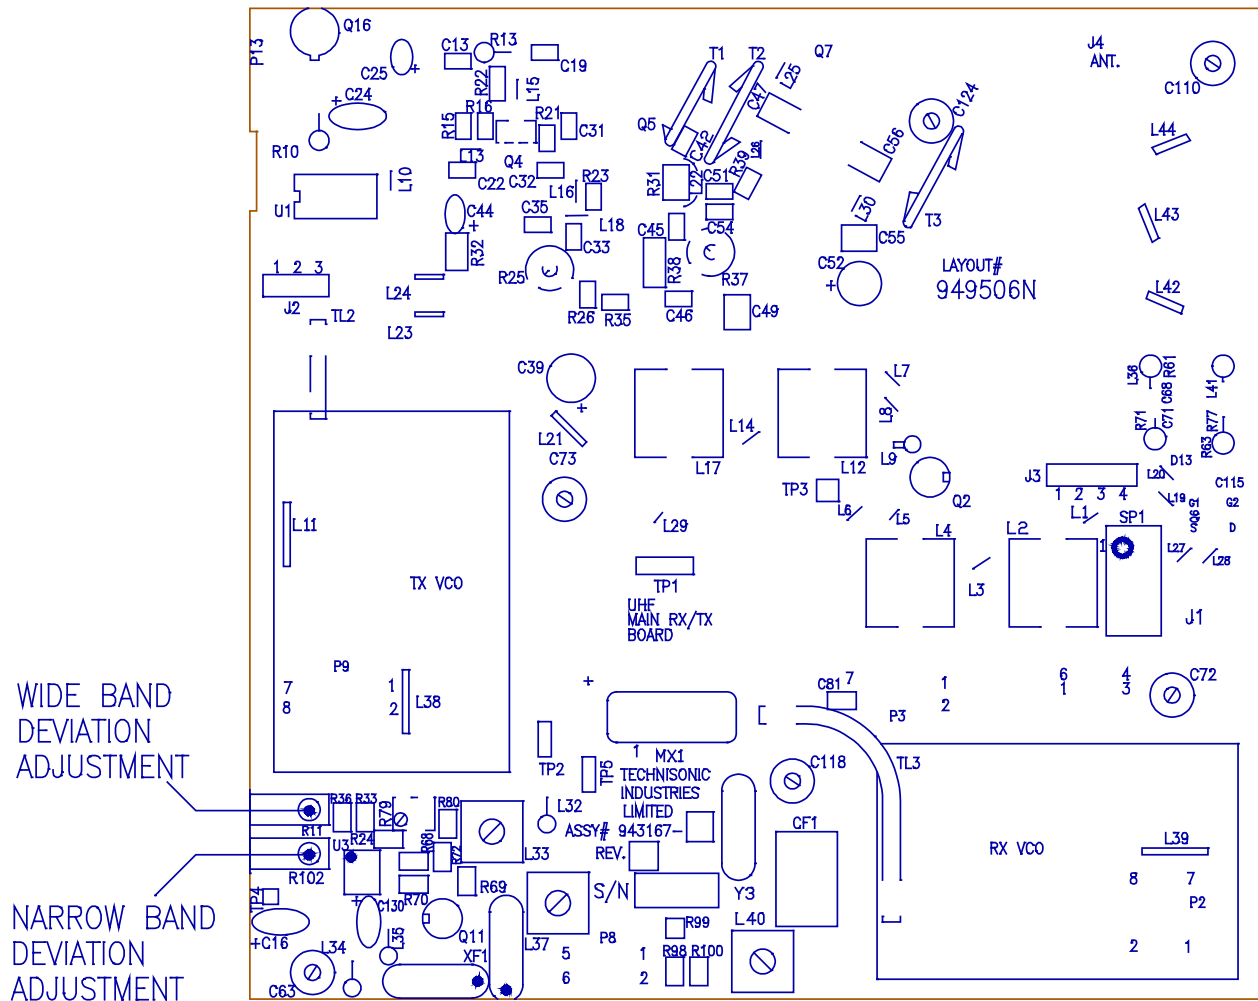

FIGURE 3-6 Deviation Adjustment Potentiometer Location
6. Adjust the wideband deviation limit potentiometer, R11 on the UHF Rx/Tx module (see Figure 3.6), to produce a ± 4.25 kHz deviation. Select narrow band mode on the UHF band and adjust the narrowband deviation limit potentiometer, R102 on the UHF Rx/Tx module, to produce a ± 2.15 kHz deviation.